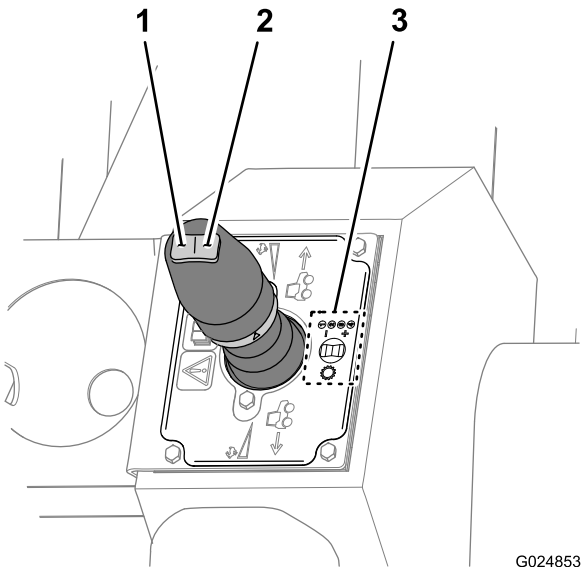

Figure 43
- To select a higher gear, press the up-shift (right) button on the rocker switch (Figure 43).
- To select a lower gear, press the down-shift (left) button on the rocker switch (Figure 43).